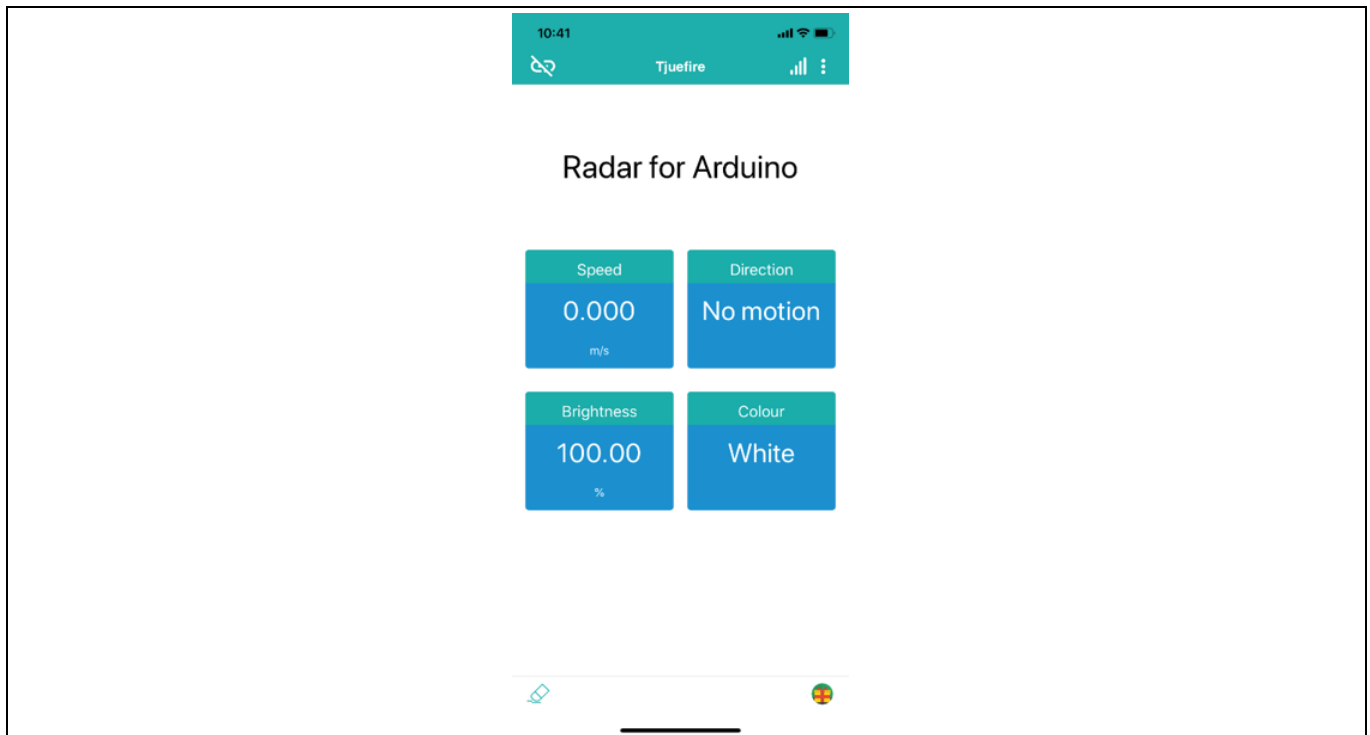

Figure 36 Andee app – GUI upon successful connection
11. Upon successful connection, the GUI should appear on the app (Figure 36). In case this does not happen, disconnect from the app, press the reset button on the radar baseboard XMC4700 and retry the connection. Make some movement in front of the radar board and observe the measured speed and detected direction on the GUI. You may also observe the light from the RGB LED changing with regard to the motion and its direction (Table 6).